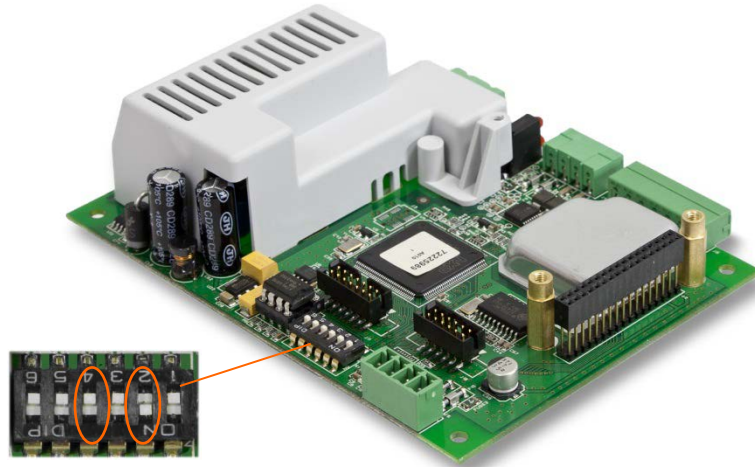

Figure 4-9: Switches SW1-2 and SW1-4
2. Place switch SW1-2 in the ON position, as shown in Figure 4-9.
- The position of SW1-4 (also shown in Figure 4-9) determines whether metrologically significant EEPROM data for scale calibration is reset when a master reset is performed. SW1-4 must be set to ON to reset EEPROM data. If SW1-4 is set to OFF, EEPROM data will **not** be affected by the master reset.